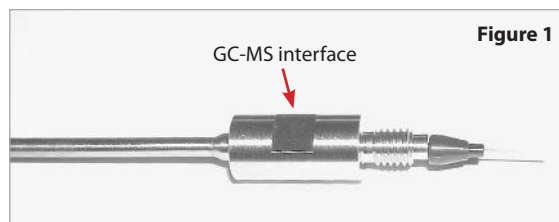

Figure 1
5. Place a polyimide ferrule (cat.# 21043) on the end of the transfer line (cat.# 21018) that protrudes from the MS (Figure 1).
6. Using a scoring wafer or similar device, make a clean, square cut just before the ferrule, then adjust the transfer line (cat.# 21018) to extend approximately 3 mm from the tip of the ferrule (Figure 1). This ensures that the transfer line will bottom out in the EZ No-Vent connector and will eliminate dead volume in the connection.